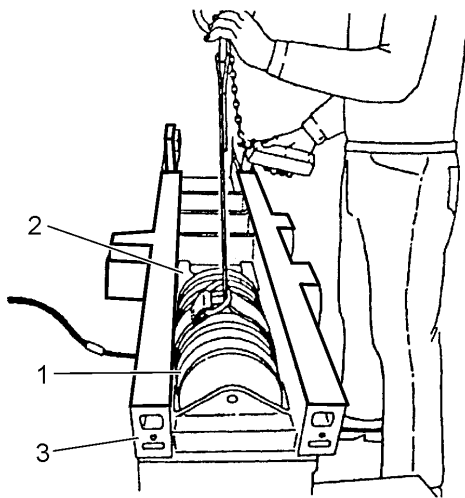

Fig. 14.57. Track Spring Installation
1. Install captured spring (1, Fig. 14.57) with bolted end (2) towards front of track frame (3). The following ram tools are required to remove retainer bridge (Fig.'s 14.48 or 14.49).